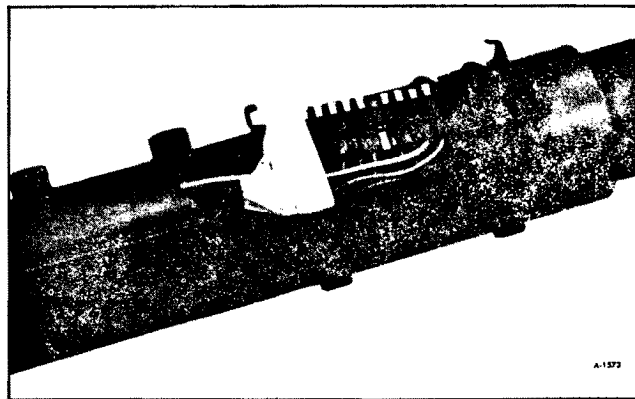

Figure 91—Connector and Wires Taped
5. Remove signal switch wire protector. **DO NOT DAMAGE WIRES.** (figure 90). Wrap a piece of tape around the upper connector and wires to prevent snagging when removing the switch. (figure 91)